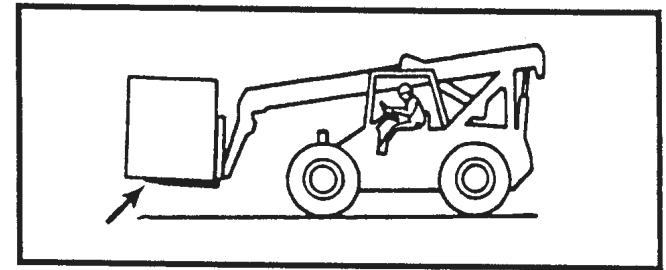

Figure 5-11. Ensure that at least two-thirds (2/3) of the load is supported by the forks.
2. Move forward slowly until the forks are in position under the load. When lifting a load, the forks must support at least two-thirds (2/3) of the length of the load. Refer to Figure 5-11. Make sure that the load is centered between the forks, and that the forks are centered on the carriage. The center of gravity must be as close to the load backrest and the center of the carriage as possible. Make sure that the forks do not extend past the load so that loads or equipment that are behind the load being lifted are not damaged. Refer to Figure 5-12.